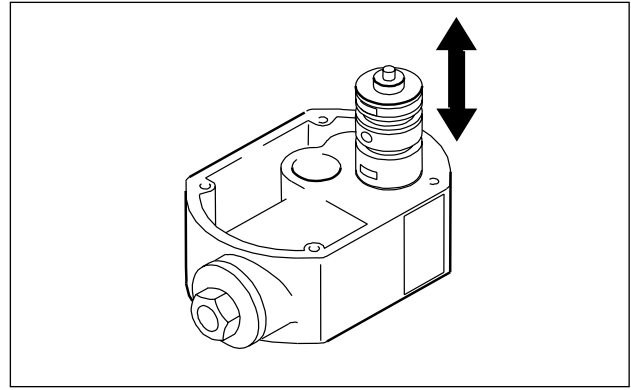

Fig. 16
- The air control valve is replaced as a complete unit (Fig. 16).